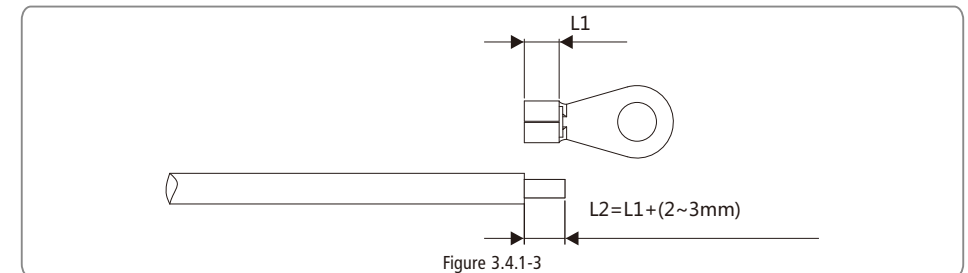

Figure 3.4.1-3
- 2.Insert the stripped wire into the terminal and compress it tightly by crimping pliers, illustrated as Figure 3.4.1-4.